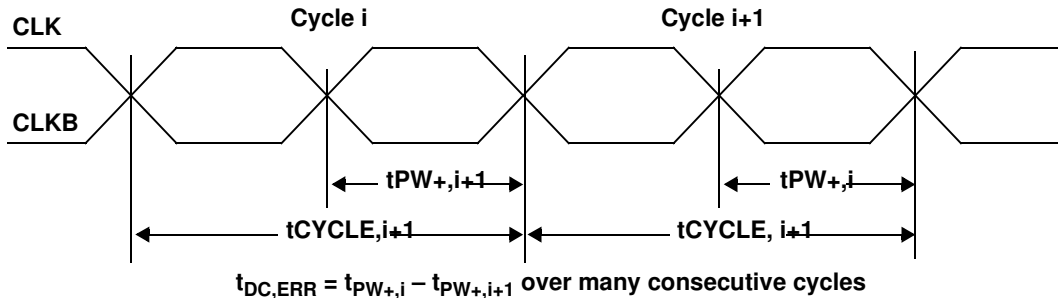

Figure 8. Cycle-to-cycle Duty Cycle Error
*Figure 8* shows the definition of cycle-to-cycle duty cycle error. Cycle-to-cycle duty cycle error is defined as the difference between high-times of adjacent cycles over many cycles (typically 12800 cycles at 400 MHz). Equal requirements apply to the low-times.  $t_{DC,ERR}$  is defined as the clock output cycle-to-cycle duty cycle error.